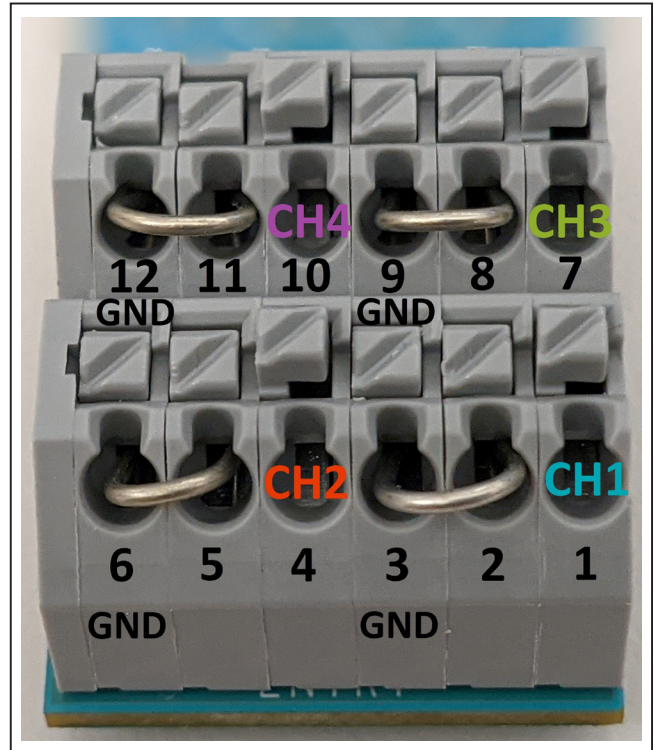

Figure 1. Input Connectors J2 and J3—Input Pin Labels and Grounding
- 4) The GUI requires voltages and currents to be measured at the J2 and J3 input connector Pins 1, 4, 7, and 10. (See Figure 1 and Table 2 for the J2 and J3 connector pin naming convention in this document.) In the GUI, these are called **Channel 1 (CH1)**, **Channel 2 (CH2)**, **Channel 3 (CH3)**, and **Channel 4 (CH4)**, respectively. These are the multifunctional “universal” analog inputs. The other pins on the J2 and J3 connectors should be grounded for accurate results—ground Pins 2, 5, 8, and 11 to their adjacent GND Pins 3, 6, 9, and 12 as shown in Figure 1. For example: